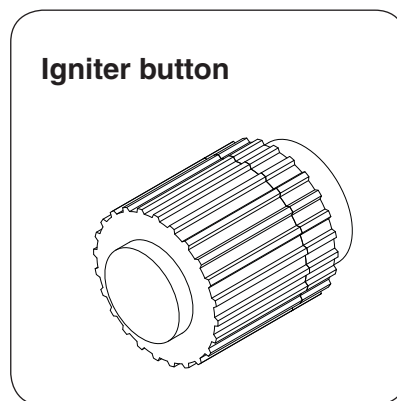

Fig. 23-1
3. Press and hold the electronic igniter button (see Fig. 23-1). The igniter will begin to spark with a rapid clicking sound.